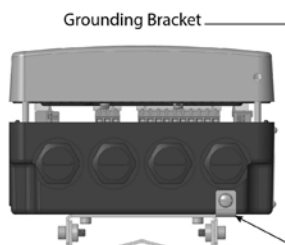

Figure 10: Lift cover from base
4. Insert a wire for earth ground under the grounding bracket (see *Figure 10*) and screw it down tight.